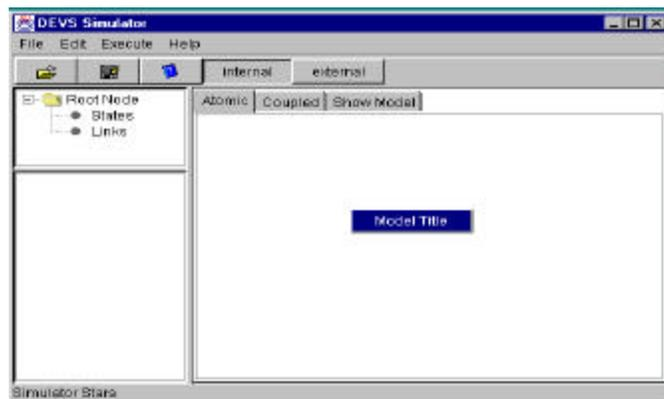

Fig 2
- Click right button of the mouse on the design space and a pop up menu will be shown. Fig 2 shows the result.